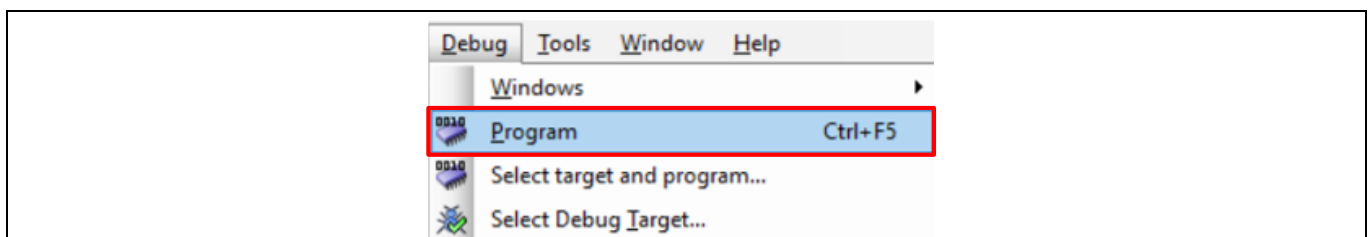

Figure 50 Programming the device
3. Choose the menu item **Debug > Program** to program the device with the project, as shown in Figure 50.